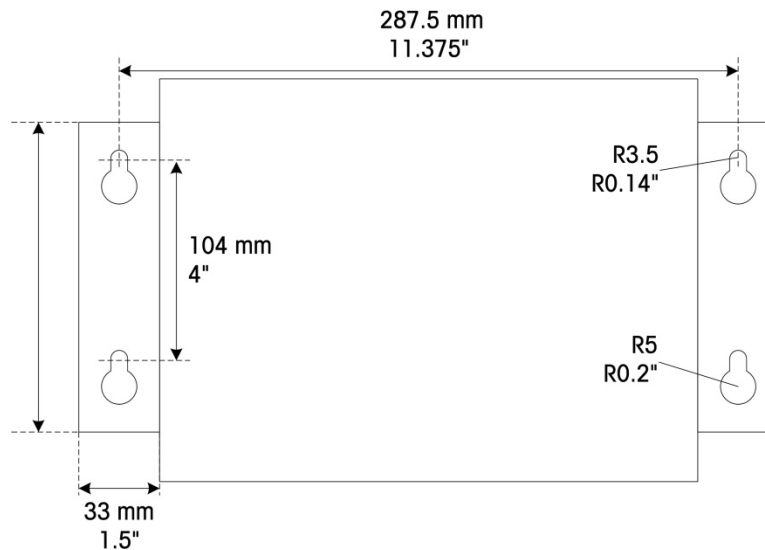

Figure 3-3: Mounting Hole Pattern
1. Mark the position of the mounting holes on the vertical surface using the dimensions shown in Figure 3-3, or by holding the enclosure up to the surface and marking through the bracket holes on the sides of the enclosure. Measurements are provided in mm and inches.